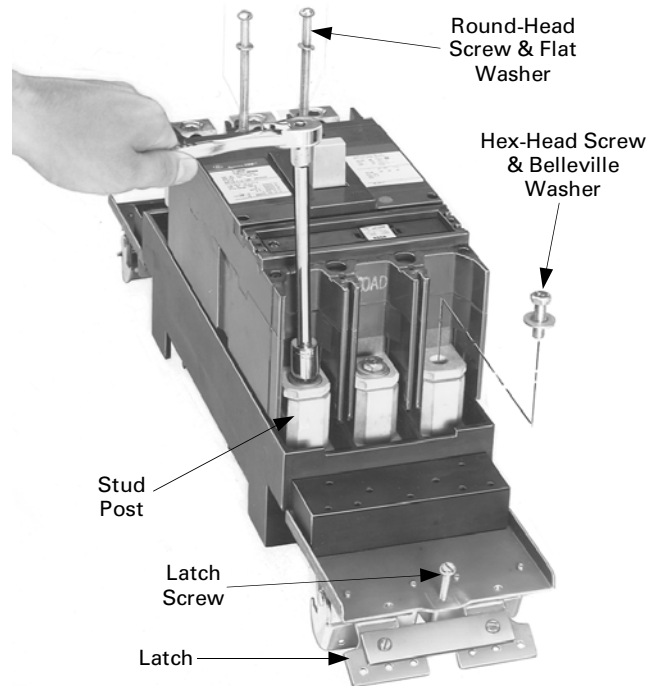

Figure 3. Installing the breaker on the module.
- Main devices (lugs only on ON side of circuit breaker).** Place the OFF side of the breaker over the stud posts, as shown in Figure 3. Secure the breaker OFF side to the module with hex-head screws and Belleville washers and tighten to 90–110 in-lb. Secure the breaker ON side to the module with round-head screws and flat washers and tighten to 40–50 in-lb.
- Branch devices (lugs only on OFF side of the breaker).** Place the ON side of the breaker over the stud posts, as shown in Figure 3. Secure the breaker ON side to the module with head-head screws and Belleville washers and tighten to 90–110 in-lb. Secure the breaker OFF side to the module with round-head screws and flat washers and tighten to 40–50 in-lb.